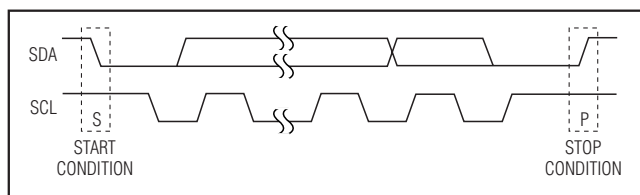

Figure 3. Start and Stop Conditions
Each transmission consists of a START condition (Figure 3) sent by a master, followed by the MAX7316 7-bit slave address plus R/ \bar{W} bit, a register address byte, one or more data bytes, and finally a STOP condition (Figure 3).
Both SCL and SDA remain high when the interface is not busy. A master signals the beginning of a transmission with a START (S) condition by transitioning SDA from high to low while SCL is high. When the master has finished communicating with the slave, it issues a STOP (P) condition by transitioning SDA from low to high while SCL is high. The bus is then free for another transmission (Figure 3).